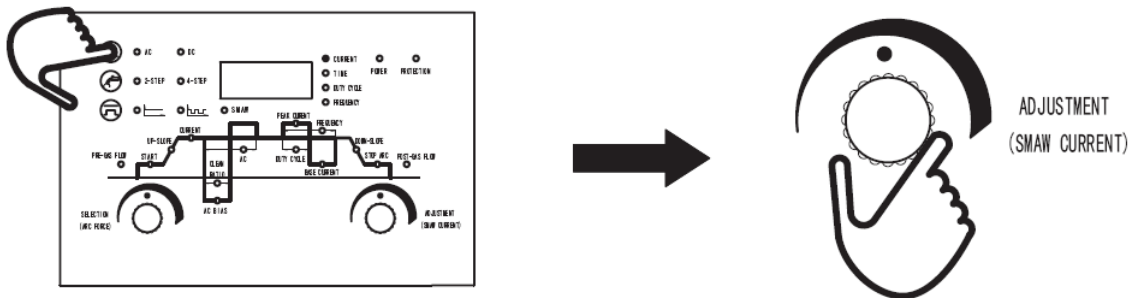

Fig. 4-6-8: Hot start time adjustment
**Hot start time** - In SMAW mode, press  button to enter into the hot start time selection menu, then turn  knob to adjust the hot start time (Range: 0.02~200S, factory setting: 0.50S).(Fig. 4-6-8)